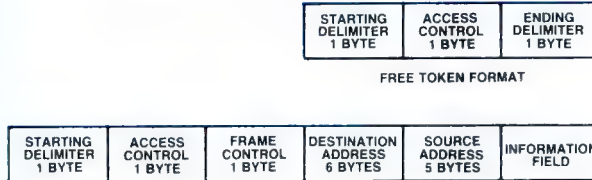

Fig. 3
And while it is not obvious from Fig. 3, it is possible to run the same upper layer protocol software over the three different LAN topologies. We will look at an example of this in the next article.
**Frame:** when digital information is transmitted between DTEs the data is arranged, by the data-link layer, into packets called frames. Included in these frames is information regarding addressing, bus control, and error detection. An example of the frame formats used in the Token-Ring LAN is given in Fig.3.